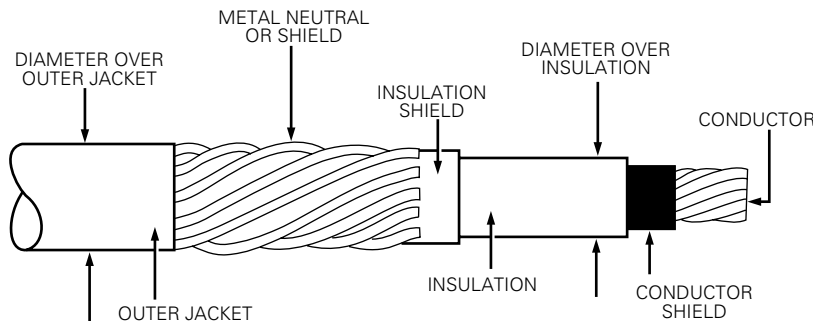

Figure 3. Illustration showing typical construction of medium voltage underground cable.
STEP 1: Determine the cable's diameter over the electrical insulation as shown in Figure 3 (including tolerances) from cable manufacturer. Then identify a cable range from Table 3 that brackets the minimum and maximum insulation diameters. Select the CABLE RANGE CODE from the far right column.